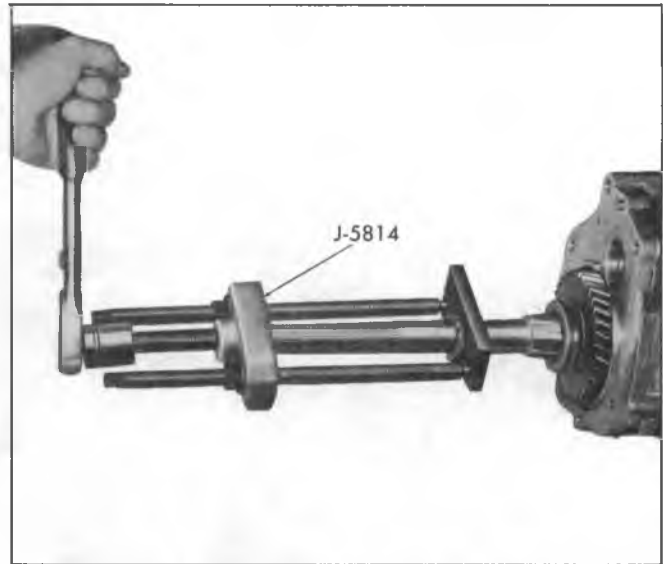

Fig. 5B—Removing Speedometer Gear
7. Remove speedometer gear and reverse gear using Tool J-5814 (fig. 5B).